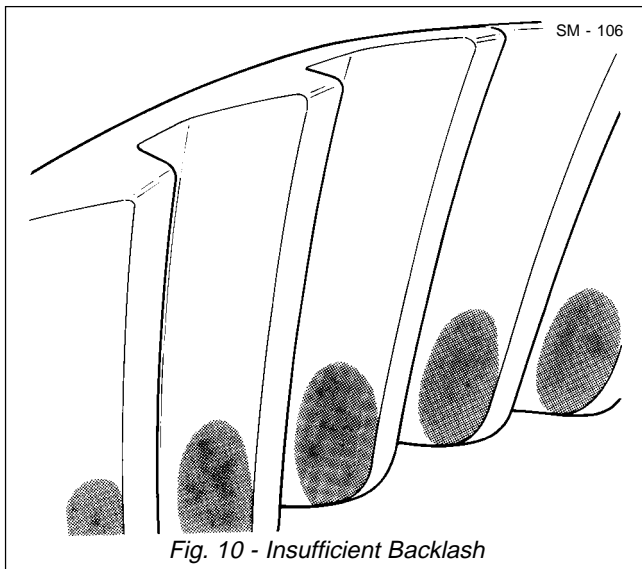

Fig. 10 - Insufficient Backlash
- b. If the contact area is on the inner side of the ring gear teeth, see Fig. 10, move ring gear away from pinion by turning bearing adjusters equal amounts until the proper bearing pattern is obtained.